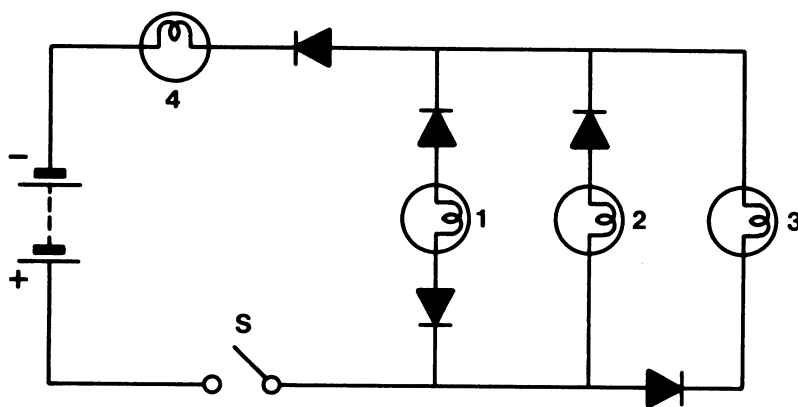

FIG. 3.33
26. A circuit contains lamps and diodes connected as shown in Fig. 3.33.